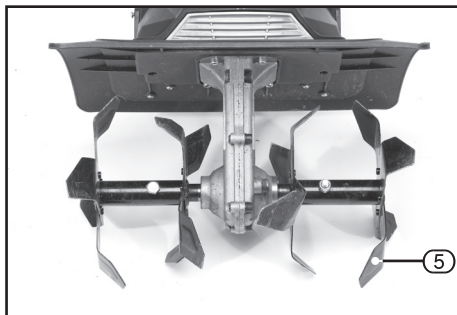

FIG.13
8.3 INSTALLING AND REMOVING THE ROTORS – FIGS.13 – 16
The rotors (5) are fitted to the drive shaft using a nut and bolt for each rotor section (fig.13).